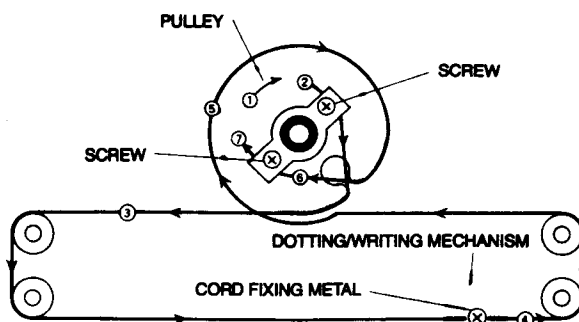

Figure 5-1. Drive Cord Replacement
1. Turn the pulley carriage clockwise for one complete rotation. Pen mechanism should now be on the right. See Figure 5-1.